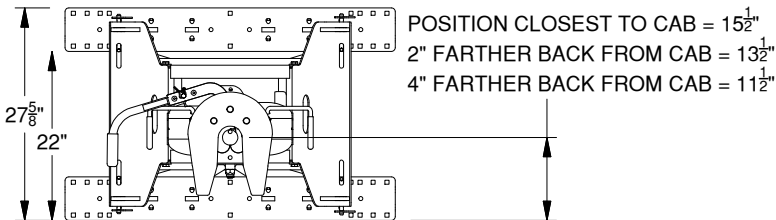

Figure A2: Distance from edge of rear rail to pivot point. (Rails, base, and coupler shown fully assembled.)
1. Mount arms. Mount the pivot arms using one of the twelve different locations illustrated in Table A1 and Figure A2. These twelve locations allow flexibility in coupler height (vertical adjustment) and distance from the cab (horizontal adjustment). Choose a location so that your trailer will be as level as possible and have adequate turning clearance while towing.